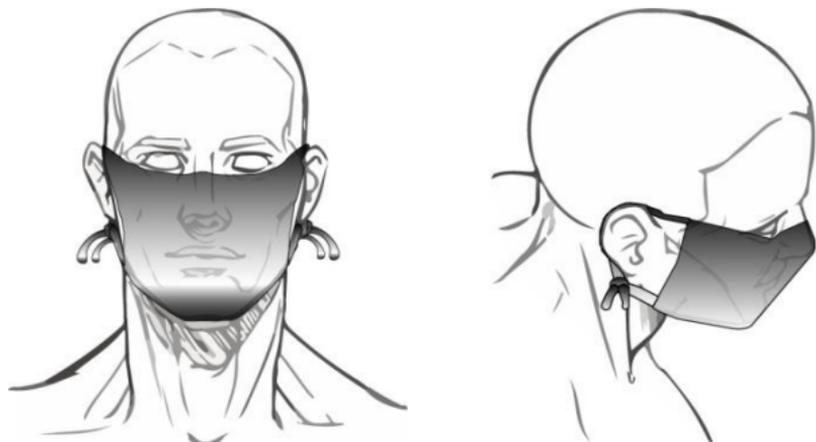

Fig. 9
- c. Tie each lower fastener with the upper fastener on the same side, placing the knot approximately between the bottom of the ear and closest to the PSE mask (See Fig. 9).
- d. Caution: avoid placing the knot on ear lobes to reduce the risk of discomfort or unpleasant friction. Tie below the ear as shown in Fig. 9.